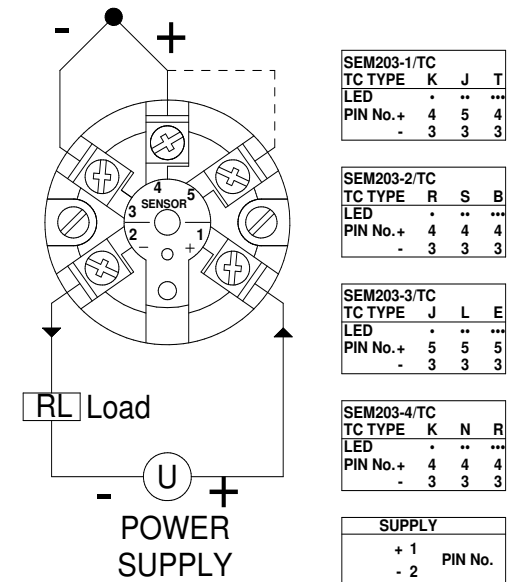

Figure 2
Refer to Figure 2 and 3 for correct connection and type setting details, this information is duplicated on the transmitter side label.
* Connect as figure 2 table.
Figure 2 shows the method of connection to provide a 4-20 mA current loop output. The TC sensor shown would normally take the form of a probe assembly. The output loop shows a power supply, used to provide loop excitation, the transmitter, and a load, all connected in series. The load symbol represents other equipment in the loop e.g. indicators, controllers, loggers etc.